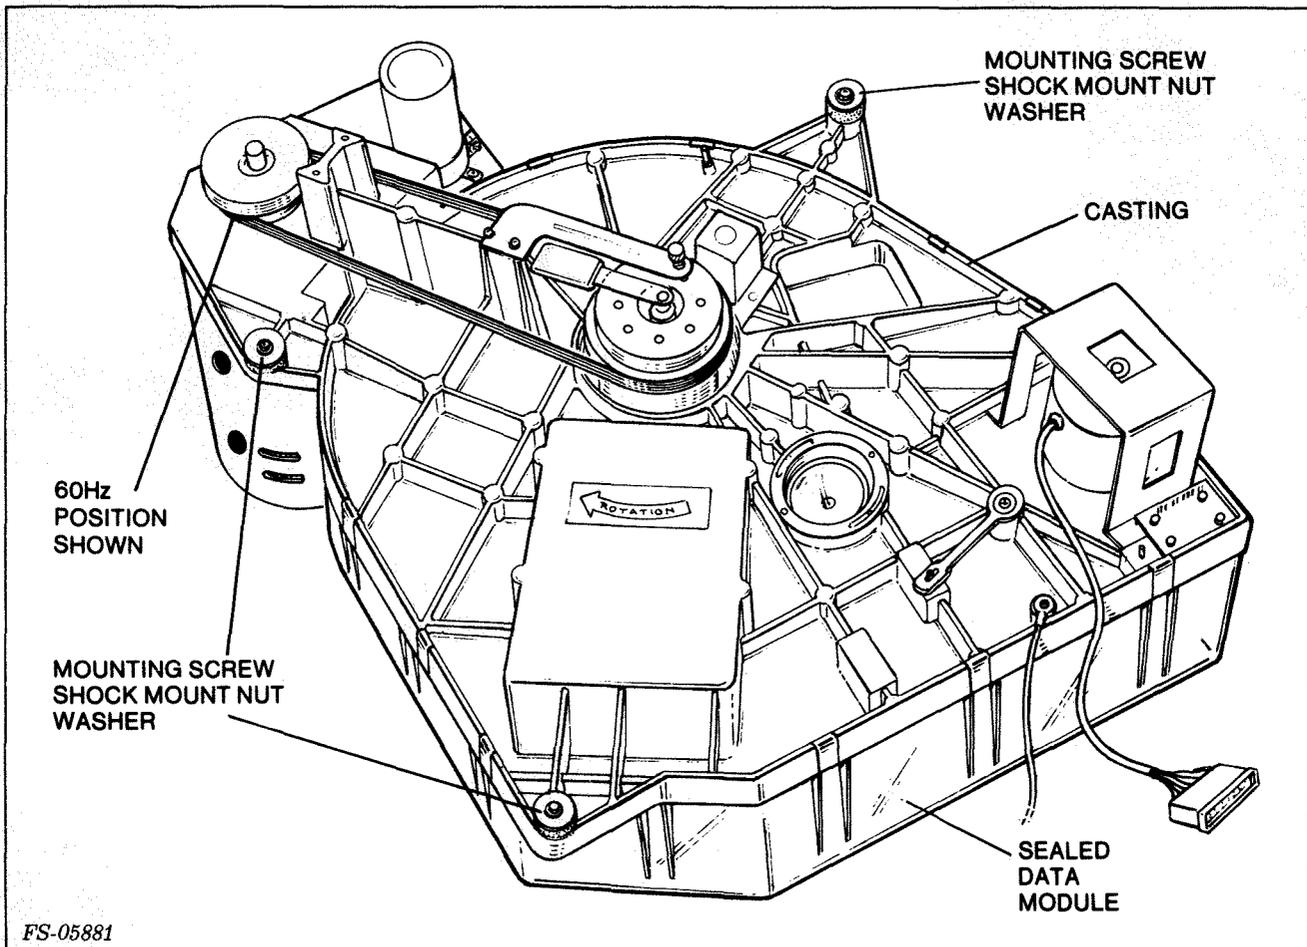

Figure 5-12. Sealed Data Module Mounting Screw Locations
8. From the bottom of the drive, unscrew the three shock mount nuts that hold the sealed data module to the casting (see Figure 5-12). Remove the sealed Data Module from the drive.